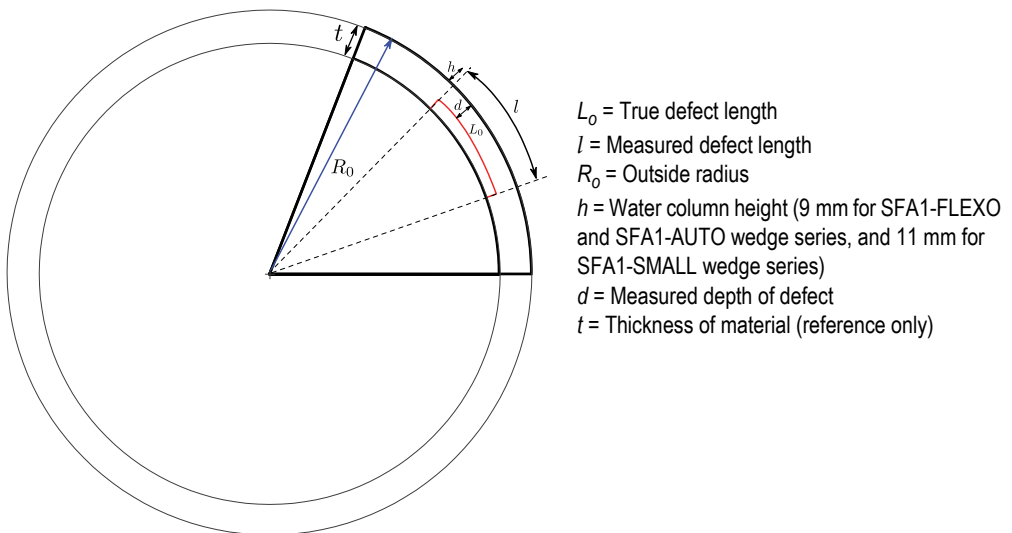

Figure B-1 Variables for calculating true defect length along the index axis
To calculate the true defect length (L_0) along the index axis, use equation (2) on page 77. The variables are illustrated in Figure B-1 on page 77.
| Figure B-1 | Variables for calculating true defect length along the index axis | 77 |